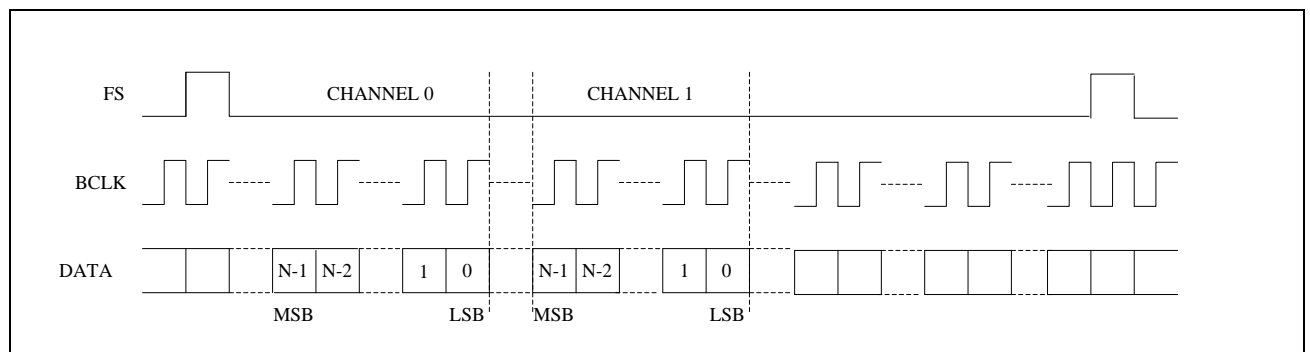

Figure 22 PCM Time Slot Audio Data
Normally, the DAC data is clocked immediately after the Frame Sync (FS); however, in PCM Time Slot Mode, the audio data can be delayed to a specific channel or time slot. These channels or time slots can be seen in **Figure 22**.